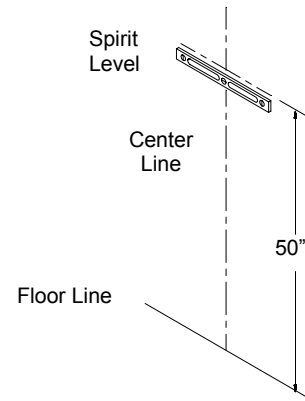

FIGURE 7
1. Determine and mark the vertical center line for installation of the manifold. (Figure 7)